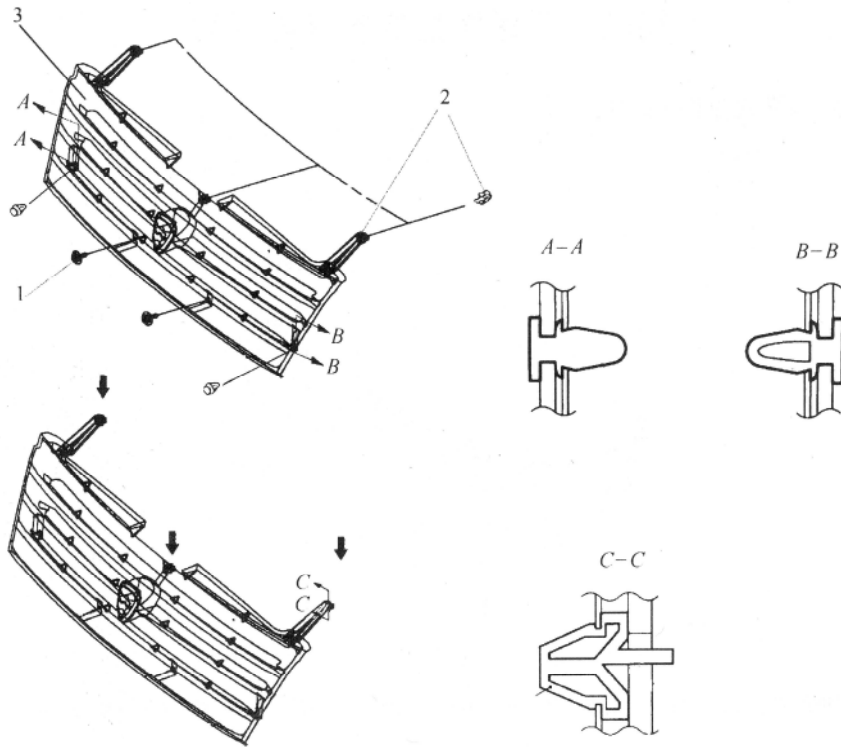

Fig. 18-19
- (1) tear down the clip on body (see Fig.18-19);
- (2) when pulling the grill, along the arrow, button the clips by screwdriver, teardown the grill;